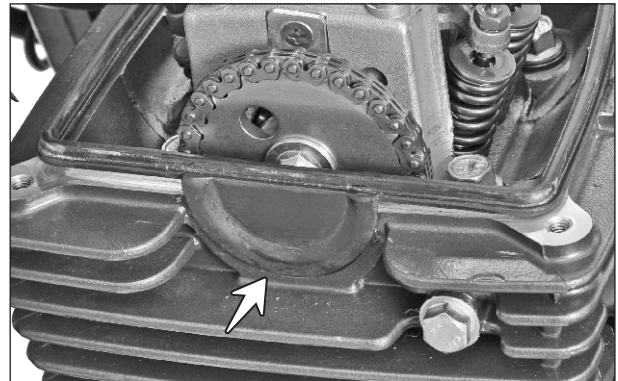

Fig. 3.36
- Take out the packing seal cover cylinder head. (Fig. 3.36)